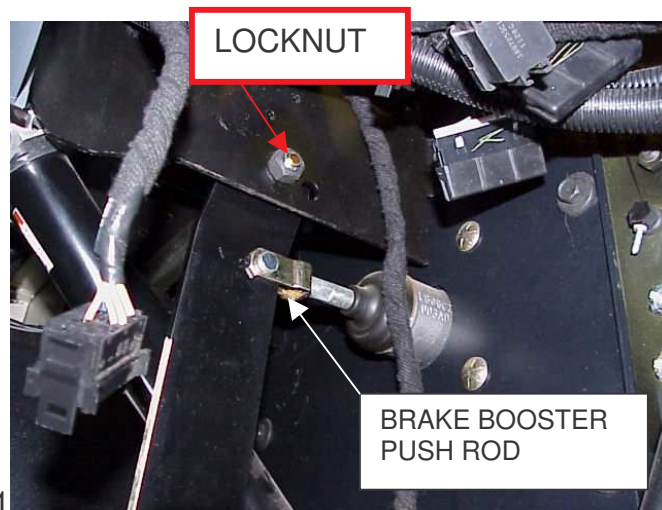

Figure 1
See Figure 1 for the location of the locknut in a bus.
1. Inspect the locknut. The locknut is located on the right hand side of the pivot bracket, above the brake pedal. **Do not confuse this locknut with the nut on the brake booster push rod below it.** See Figure 1.